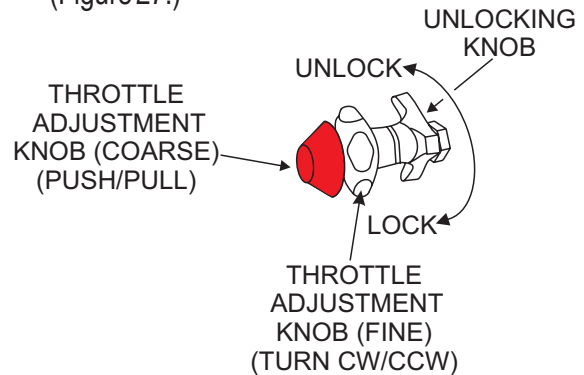

Figure 27. Throttle Control Knob (Un-locking)
- A. Unlock the throttle cable. To unlock the throttle cable, turn the inner most knob counter clockwise (Figure 27.)